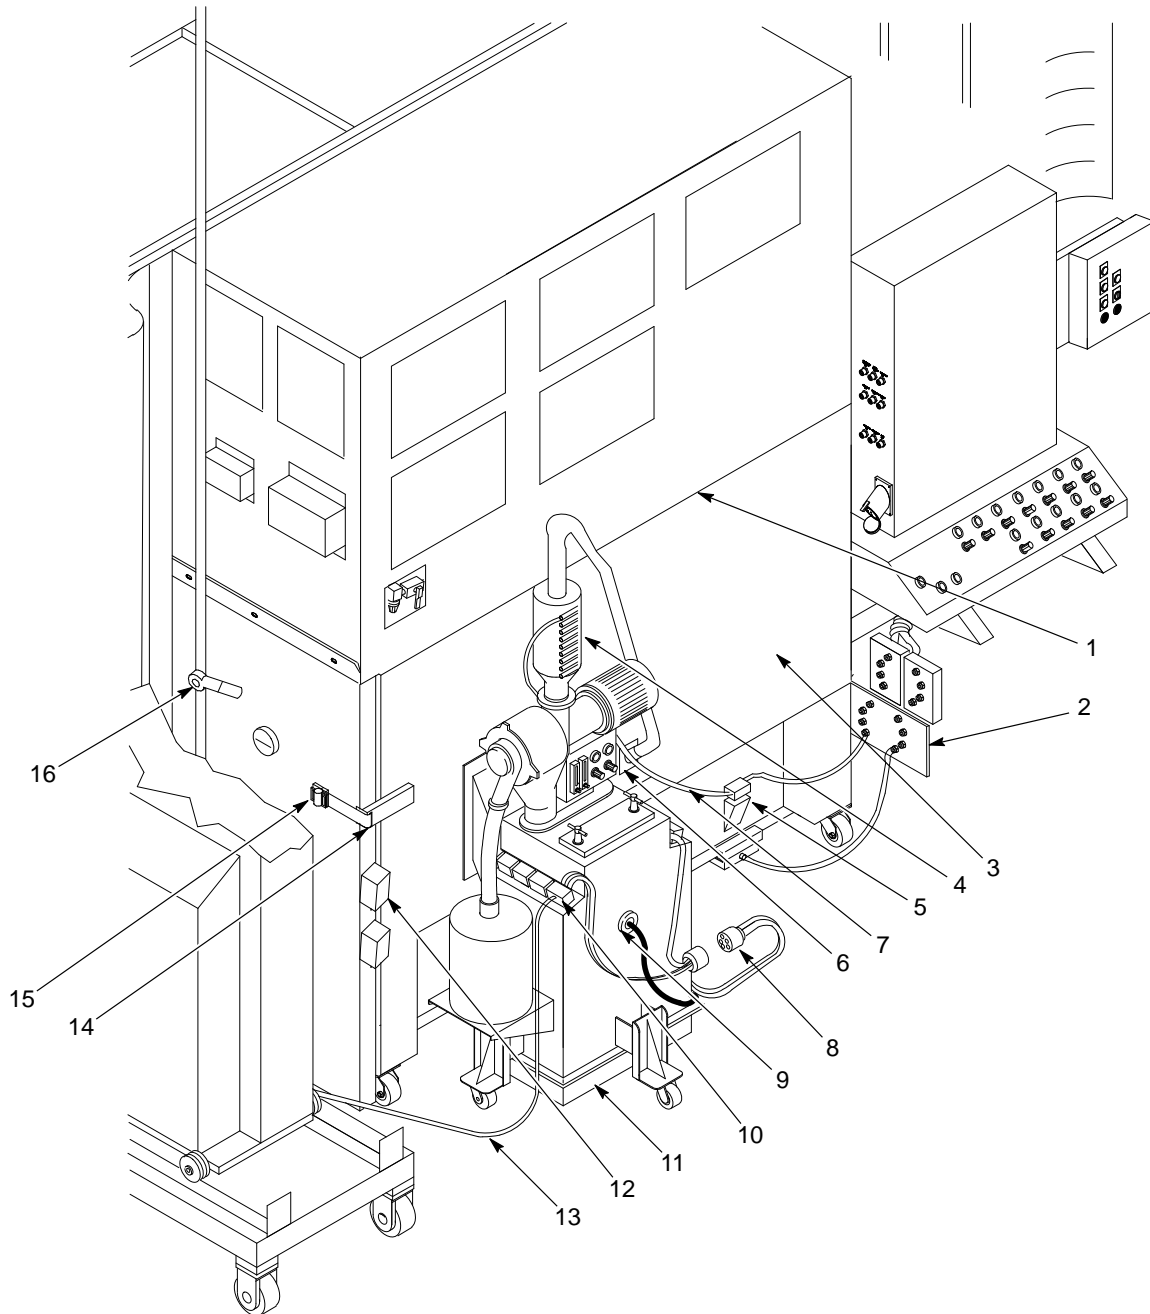

Figure 3-5 Installing a New Color Module and Feed Hopper; Steps 6-15
6. See Figure 3-5. Hook the clamping straps (14) to the color module (3). Tighten the ratchets (15) to pull the color module against the stops and compress the D-gasket against the inlet frame. This must also close the limit switch on the inlet frame.
7. Use the seal control valve (16) to inflate the pneumatic seal (1). Make sure it is sealing on all four sides of the color module.
8. Connect the quick-disconnect plates (2) to the color module.
9. Connect the 10-tube connectors (8) to the receptacles on the feed hopper.
10. Install the level sensor (9) into the mounting on the feed hopper.
11. Make sure the accumulator (4) vent hose is connected to the vent-assist plate (6), and that the vent-assist air tubing is connected to the tube fitting.
12. Connect the sieve electrical cables to the junction boxes (12) on the fan section support.
13. Disconnect the old feed hoses (13) from the guns. Install new feed hoses between the powder pumps (10) and the guns, or use hoses that have already been used with the new color.
14. Make sure the transfer hoses (7) are connected to the accumulator.
NOTE: If the attached feed hopper is equipped with a sieve, accumulator, and level sensor, plug the ports in the accumulator after disconnecting the transfer hoses (see Figure 3-5, (7)). Plug the level sensor mounting hole.
2. See Figure 3-5. Position the portable feed hopper so the feed hoses (13) from the powder pumps can be connected to the guns.
3. Install a vent hose between the vent on the feed hopper lid and the vent-assist plate (6) on the color module. Clamp the hose to the hopper vent and the vent-assist plate.
6. Install new feed hoses (13) between the pumps and the guns. Use hoses that have already been used with the new color, if possible.
8. Connect the transfer hoses (7) from the transfer pumps (5) to the scrap drum lid.